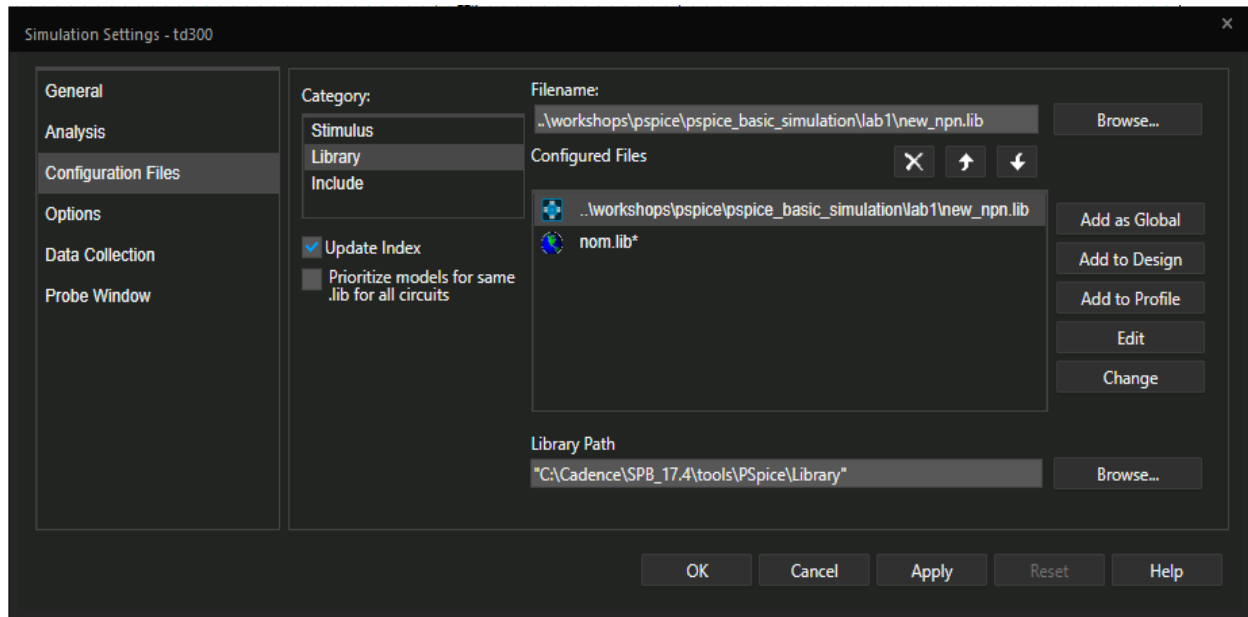

Figure 2-5: Including new_npn.lib
5. Select the **Browse** button next to the **Filename:** field (see Figure 2-5). Browse and select the vendor library file found in **module2\new_npn.lib**. After selecting **new_npn.lib**, select **Open** in the file browser.